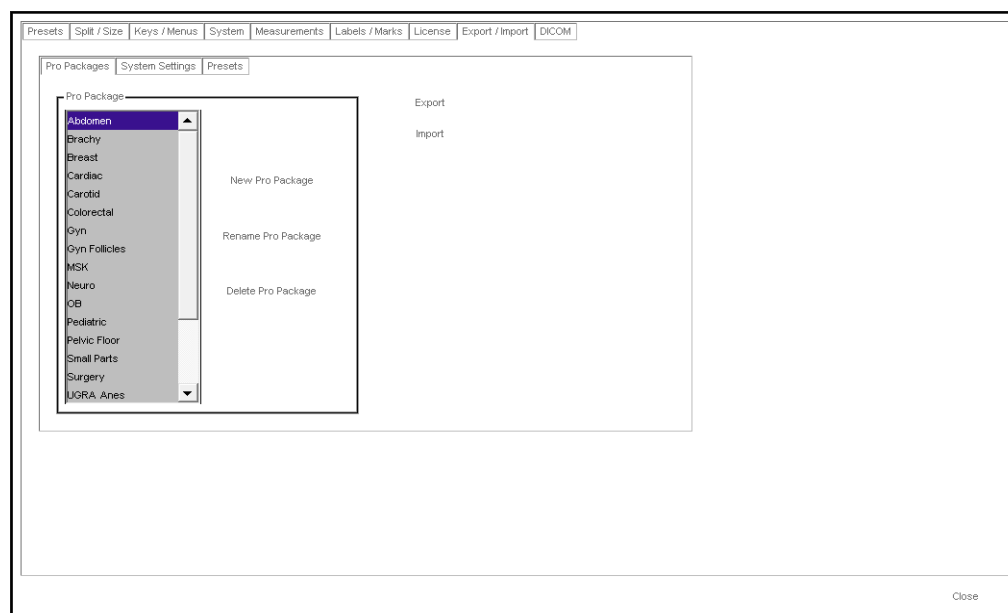

Figure C-26. The Export/Import window opened to the Pro Packages.
- 1 In the **Export/Import** window (Fig C-26), click the **presets** tab.